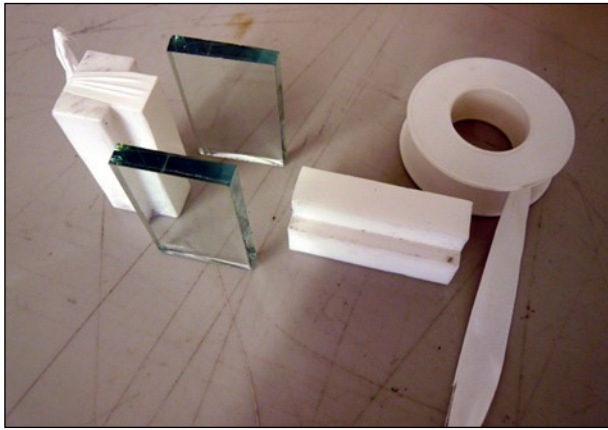
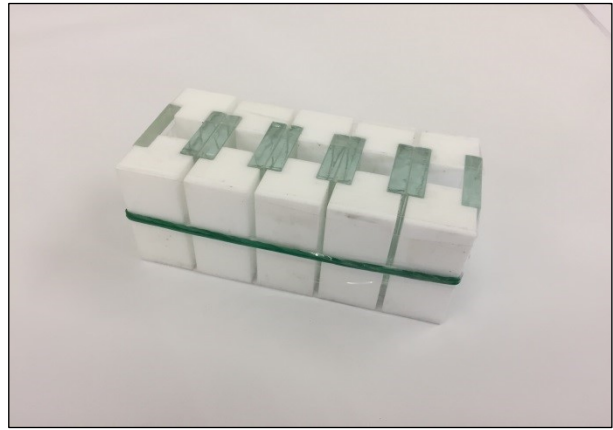
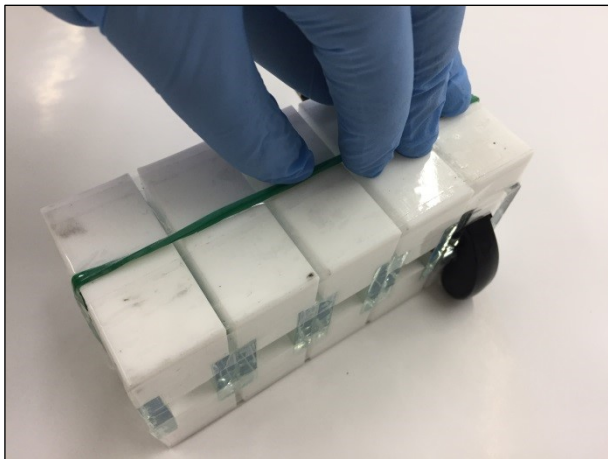

Figure 15: Spacers, e-PTFE tape (tape necessary for 1-component adhesives) and substrate pieces (e.g. glass)
Figure 16: Arrangement and fixation of the samples with a rubber band and tape
Figure 17: Injection of the silicone adhesive into the joint
- Fix the glass and/or metal (spacer bars) test specimens to be bonded, with spacers. If applicable, distance pieces (Figure 15 - Figure 16) so that a joint measuring 12 x 12 x 50 mm can be filled (Figure 17).